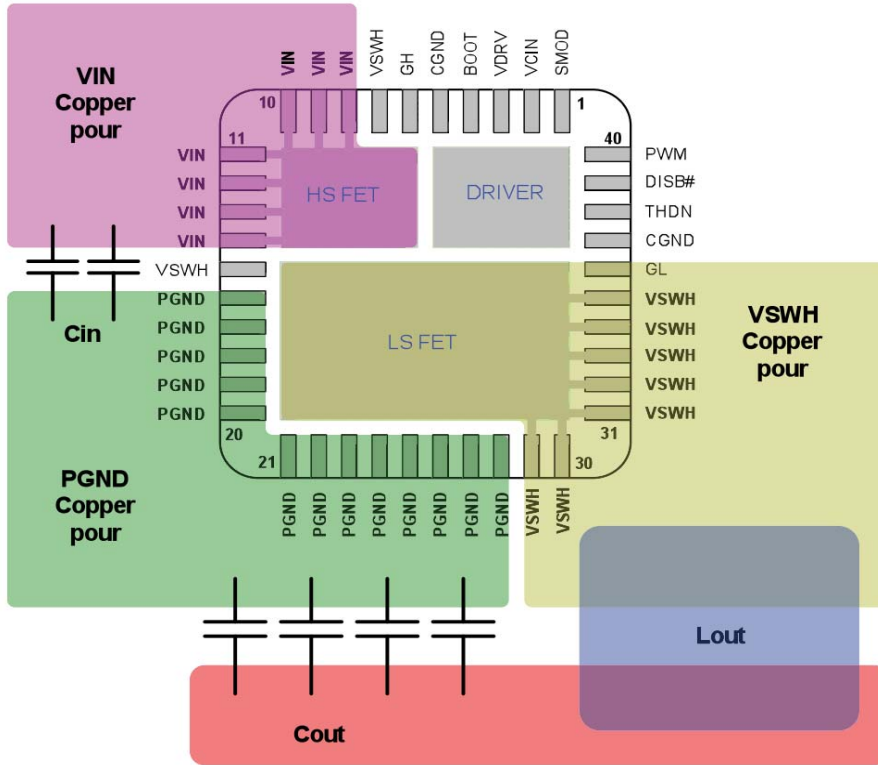

FIGURE 3. PCB LAYOUT FOR MINIMIZING CURRENT LOOPS
- Place multiple 10μF or greater ceramic capacitors directly at device between V_{IN} and PGND as indicated in Figure 3. This is the most critical decoupling and reduced parasitic inductance in the power switching loop. This will reduce overall electrical stress on the device as well as reduce coupling to other circuits. Best practice is to place the decoupling capacitors on the same PCB side as the device.
- Place PVCC, V_{CC} and BOOT-PHASE decoupling capacitors at the IC pins as shown in Figure 3.